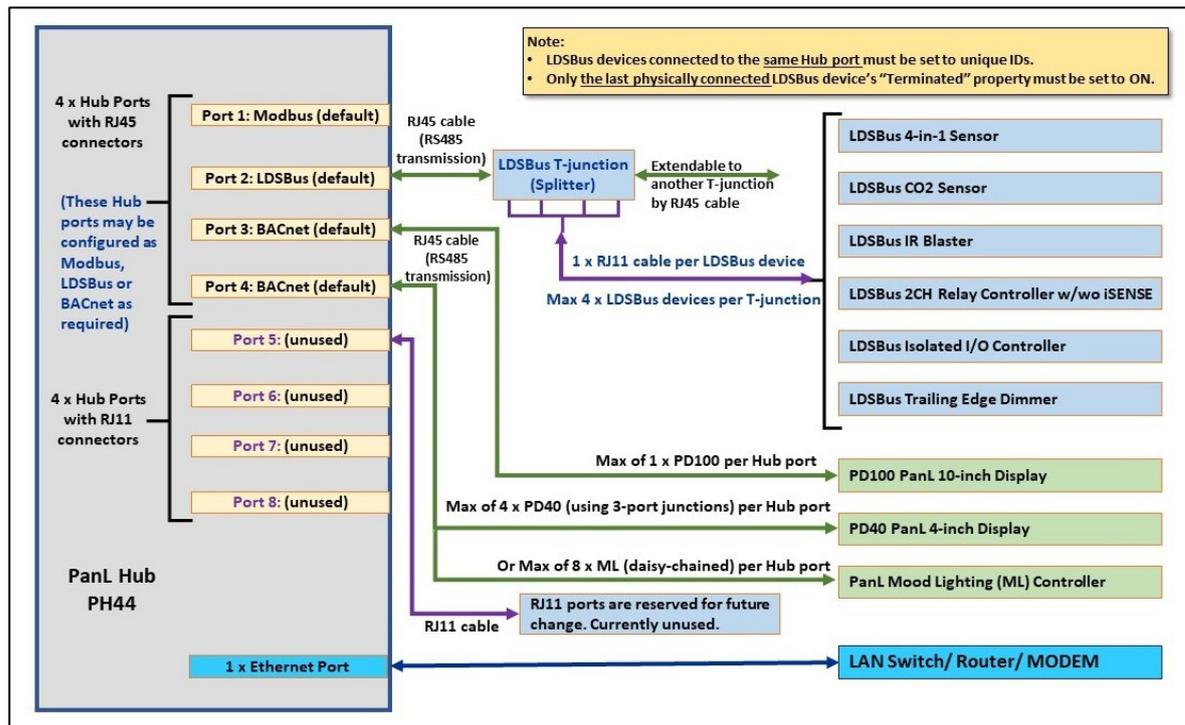

Figure 7 - PanL Hub44 Setup - Connecting Devices to PanL Hub (for PSL Version)
- a) Use an RJ45 cable to connect to any RJ45 Port through an LDSBus Quad T-Junction splitter (also known as HVT) which has 4 x RJ11 ports (Refer to Figure 7).
- b) Next, use an RJ11 cable to connect the LDSBus device to any one of the LDSU port at the LDSBus Quad T-Junction (Refer to Figure 7).